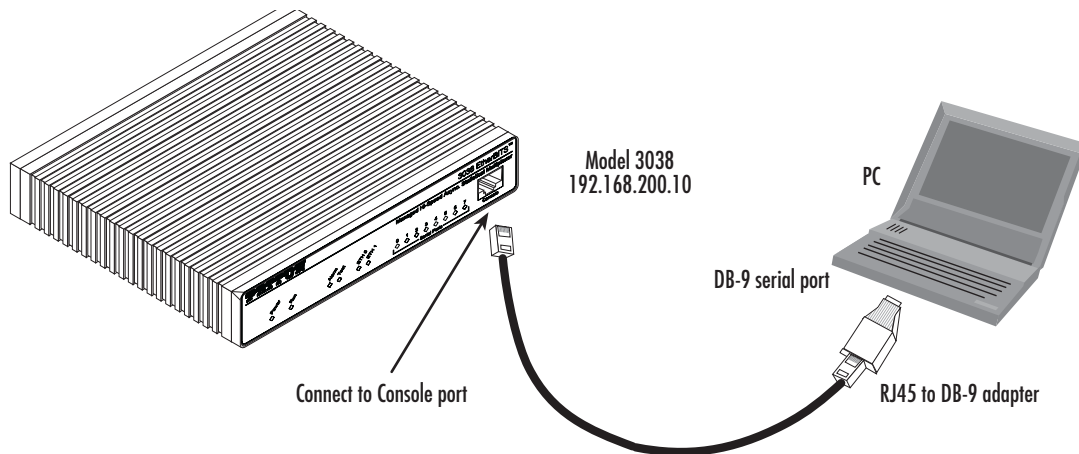

Figure 11. Connecting the Model 3034/3038 to your laptop PC via the console port
1. To access the configuration via the console port, connect the DB9-RJ45 adapter to the DB-9 serial port on the PC or dumb terminal. Use the RJ45 straight-through cable between the adapter and the console port on the 3034/3038. (see Figure 11).